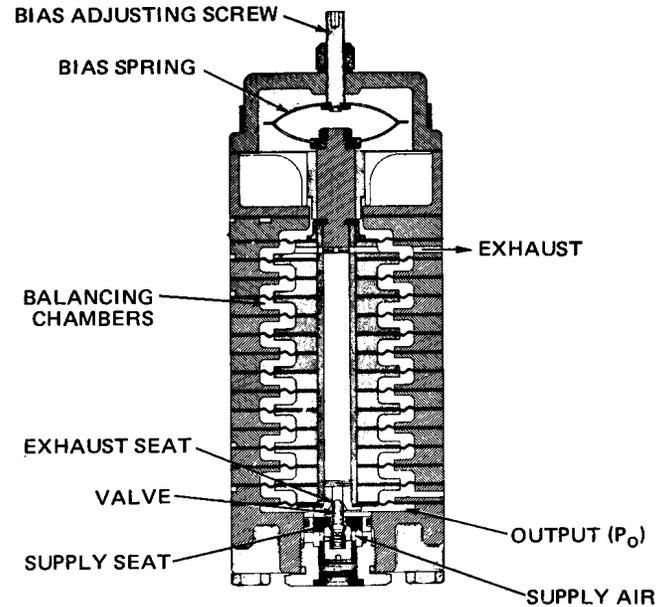

Figure 2
The illustration (Figure 2) shows a relay for averaging 7 input pressure signals. The operation of the smaller units is similar.
With normal supply pressure and input (signal) pressures applied, the Bias Adjusting Screw (Figure 2) may be turned clockwise to increase the output (control) pressure or turned counterclockwise to decrease output pressure.
1. With a supply pressure of 30 psig (2.1 bar) and an input pressure of 3 psig (0.21 bar) on each input port, turn Bias Adjusting Screw (Figure 2) until output pressure is 3 psig (0.21 bar). Increase all input pressures to 15 psig (1.03 bar) and check output pressure, which should be 15 ± 0.2 psig (1.03 ± 0.01 bar).
2. If necessary, remove Cap (24) and adjust Valve Seat (17) until the correct output pressure is obtained.
3. Repeat steps 1 and 2 until the correct ratio is obtained. This unit may be adjusted while operating with Cap (24) removed, but the final setting must be checked after the Cap (24) has been replaced.